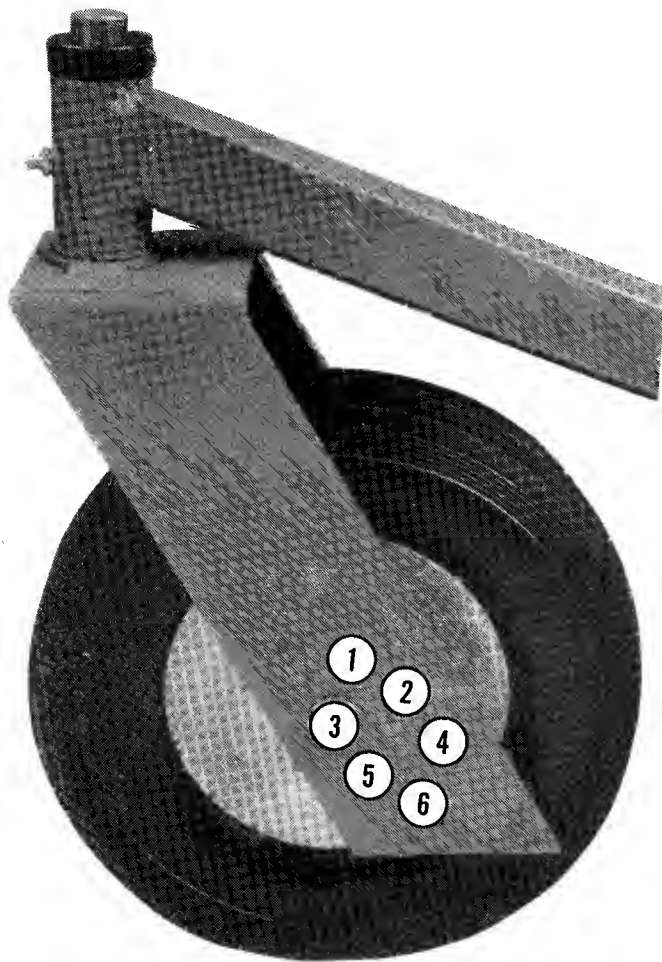

Figure 18 Front Wheel Positions
- B. Remove the linchpin from each of the front axles and reposition the axles as required. See Fig. 18.